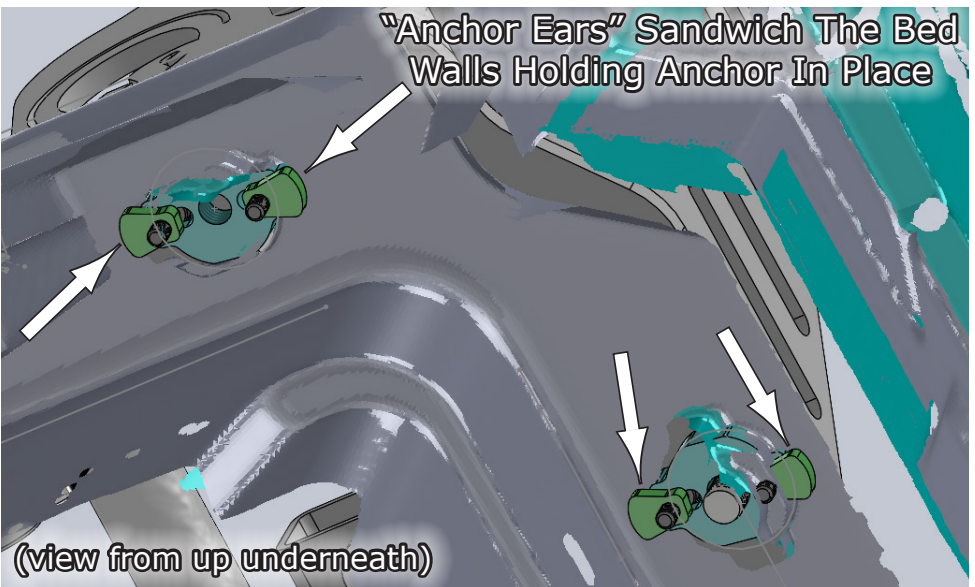

Fig.1b
1. The first thing to do is install the **Accessory Anchors** into the bed frame right behind the rear window as shown in **Fig.1a**. These anchor install from the top and from up underneath as shown in **Fig.1b**. There are four (4) Anchors to install. Insert the main Anchor body down into the pocket from the top, then from up underneath, hold the Ear to the bottom of the Anchor while screwing the bolt is. As the bolt threads into the Ear, it will start to sandwich the body panel squeezing the Anchor tight. See **Fig.1b**. Repeat for all four (4) Anchors.